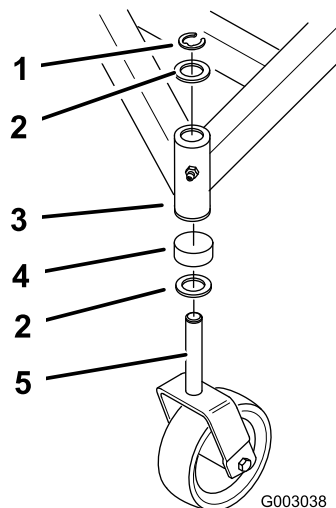

Figure 54
mounting tube to the top to lower the front of the mower (Figure 54).
4. To change the side-to-side leveling, move the thrust washers on one castor wheel fork only. Move the thrust washer(s) from the top of the carrier frame mounting tube to the bottom to raise the corresponding side of the mower. Move the thrust washer(s) from the bottom of the mounting tube to the top to lower the corresponding side of the mower. (Figure 54).